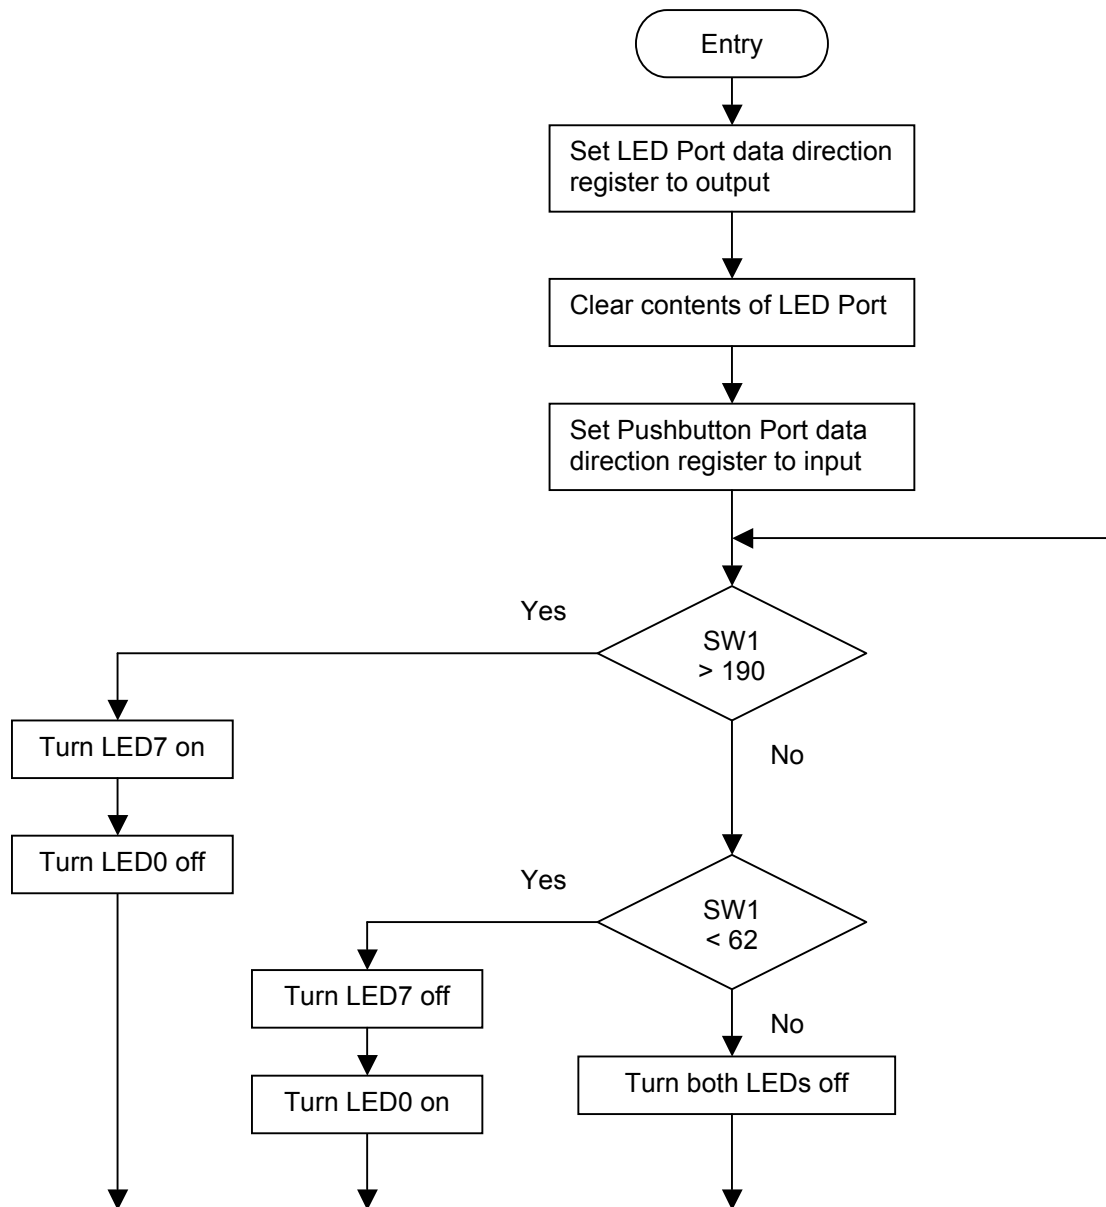

Figure 1. Decision Making
- Create an Absolute Assembler project based on the flowchart shown in Figure 1 and debug your code on the Dragon12 using D-Bug12 by setting, breakpoints, and examining both register and memory contents.